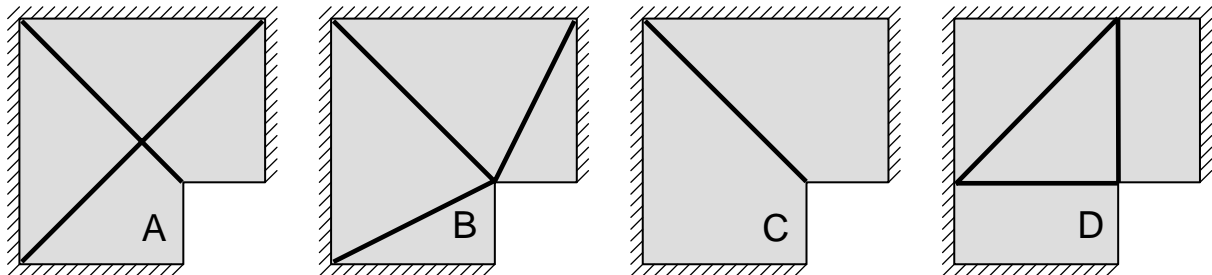

Figure 4. Yield line patterns of problem 2a
- a** We consider the yield line patterns of Figure 4. Which of these patterns give kinematically possible mechanisms (1 point).